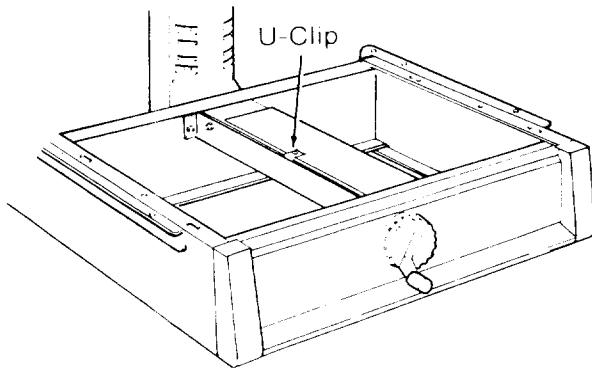

Fig. 44
3. Slide a *U-clip* onto the center channel of the *saw* as shown. (Figure 44)